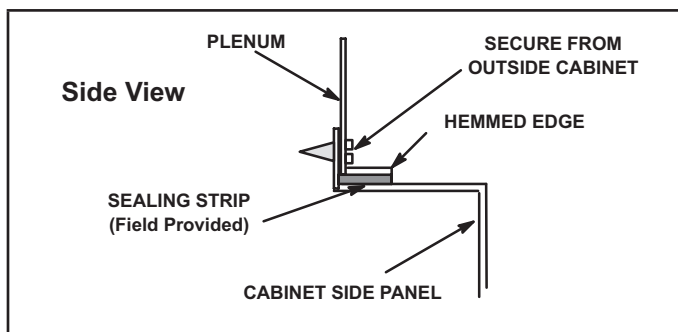

Figure 9
- 1 - Bottom edge of plenum should be flanged with a hemmed edge (See Figure 9)